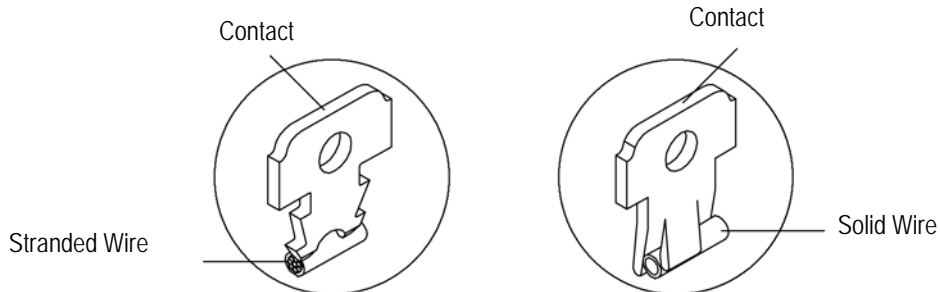

Figure 6
- 1) The wire insertion depth must be within the dimension given in Figure 6. For optimum transmission performance, the end of the conductors must be bottomed on the wire circuits.
- 2) The crimp height (measured from the top of the contact to the bottom of the modular plug, not including the locking tab) must be within the dimension given in Figure 6. All contacts must be at approximately the same height.